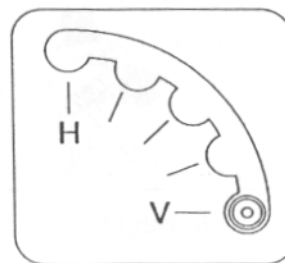

Figure 3
3. Change the position of the horizontal / vertical Spring Pin on both sides of the CD changer to the Vertical (h position (see Figure 3). (The unit is shipped with the Spring Pin in the Horizontal position.)